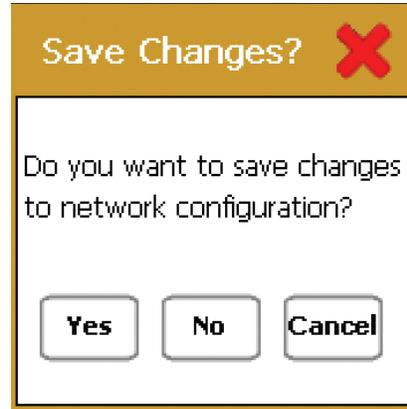

Figure 6.13: Save Changes
- c. Once all the addresses have been entered, touch the 'EXIT' button, Figure 6.12: Exit and a pop-up warning window, Figure 6.13: Save Changes, will appear to confirm the numerical entries: